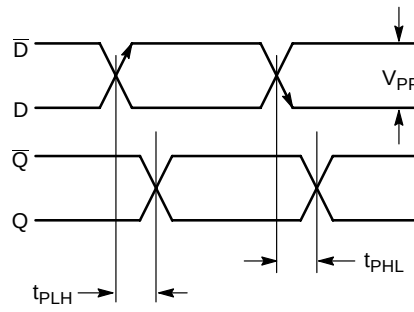

Figure 9. AC Reference Measurement
19. $t_{SKEW} = |t_{PLH} - t_{PHL}|$ for a nominal 50% differential clock input waveform. See Figure 9.
23. $t_{SKEW} = |t_{PLH} - t_{PHL}|$ for a nominal 50% differential clock input waveform. See Figure 9.